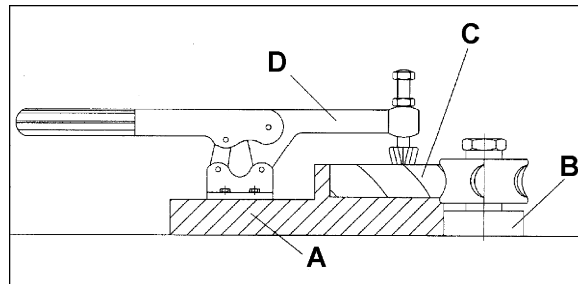

Figure 34
- Prepare the jig (A, Figure 34) to accommodate your original workpiece.
- Place the jig (A, Figure 34) against the table ring guide shoulder (B, Figure 34).
- Fasten the new workpiece (C, Figure 34) on the jig (A, Figure 34) with the clamp (D, Figure 34) and push the assembly past the cutter.